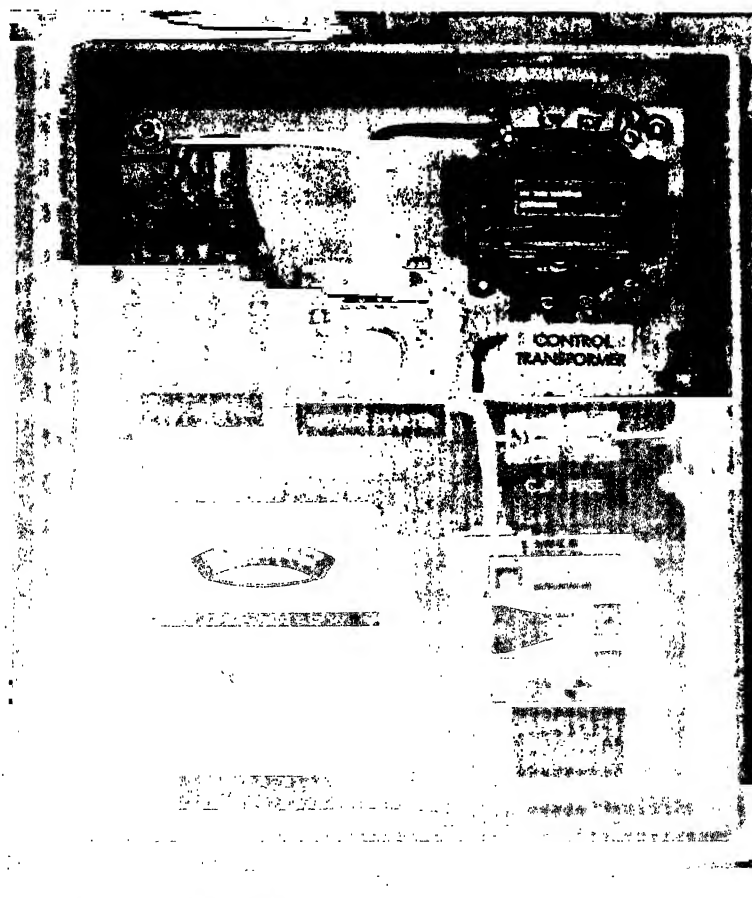

FIGURE 12. LOCATION HOT OIL CONTROLS AND GAUGES
Refer to Fig. 12 for location, purpose, and normal readings of all controls and instruments.
LEGEND FOR FIGURE 12
8. Refer to Fig. 12 for manual transfer oil valve settings, after adjusting valve turn main pump switch to "ON" position.
a. **Theory of Operation.** The theory of operation of the hot oil heater once the unit is installed, and preoperations inspections and adjustments have been made, requires minimum activity, but careful observation on the part of the operating personnel. The operator sets the heating requirements on the temperature controller (Fig. 12) and starts the heater. From this point on, the sequence of operation is controlled by the program controller located in the control box. The operation is fully automatic and involves all of the components of the burner operating system, with a check and balance, safety factor, method of procedure. The circulating pump motor starter supplies the flow of electrical current to the various components. When dangerous conditions or malfunctioning exist, safety devices throughout the system cause the unit to shut down operations. The operator observes the operation of the mechanism and the burner flame and adjusts heat limits if necessary. The operator can also stop the hot oil heater in an emergency. Emergency stopping by the operator is accomplished by returning the burner switch to the "OFF" position.
- a. When heat transfer oil is viscous because of low ambient temperature the thermal overloads on pump starter (Fig. 12) will safety out. Push reset button (Fig. 25) and remedy as follows:
5. After circulation is established throughout system readjust relief valve so that 50 PSI shows on the pressure gage Fig. 12 and remove any blocks on starters and resume normal operation.